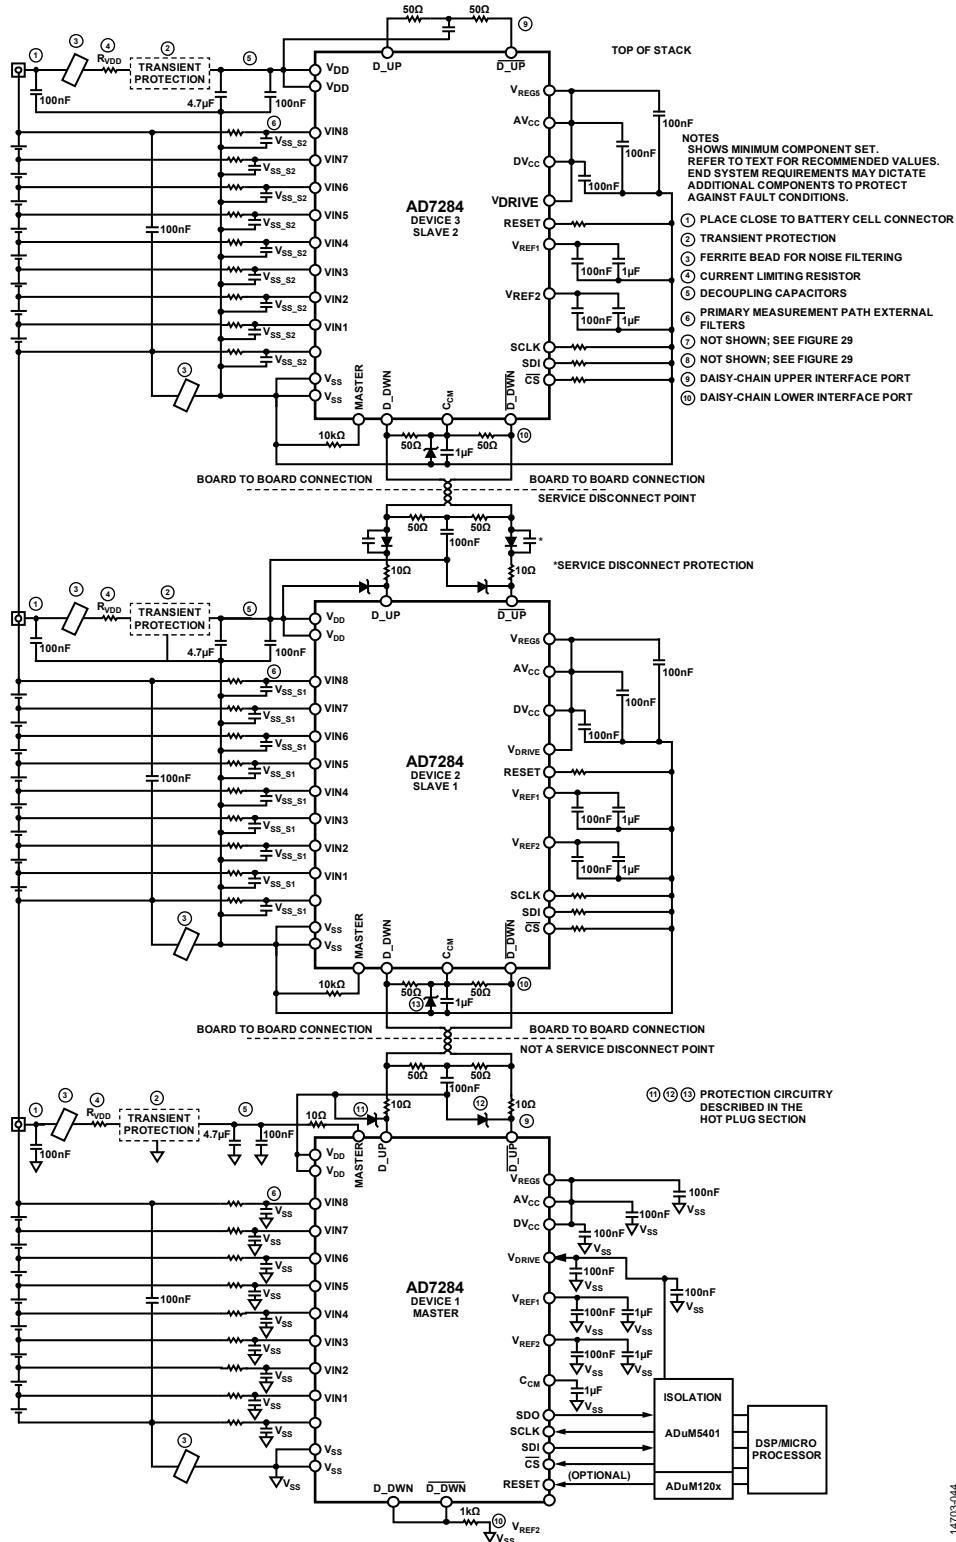

Figure 42. AD7284 Daisy-Chain Configuration with Three Devices, Where All Devices are on Separate Boards
The following notes refer to the notes detailed in Figure 41 and Figure 42:
3. Ferrite bead to filter supply noise. Typically, 1 k Ω ferrite (100 MHz) is recommend in the V_{DD} path. If a ferrite is required in the V_{SS} line, it is recommended to use a value <100 Ω (100 MHz). This note applies to the master or slave configurations. See Note 11 in Figure 41 and see Note 3 in Figure 42.
Li-Ion battery applications require a significant number of individual cells to provide the required output voltage. Figure 42 shows the recommended configuration of a chain of AD7284 devices monitoring a larger battery stack. The daisy-chain interface of the AD7284 allows each AD7284 to communicate with the AD7284 immediately above and below it. The daisy-chain interface allows the AD7284 devices to be electrically connected to the battery management device without the need for individual isolation devices between each AD7284. One AD7284 acts as the master device, interfacing through the standard SPI interface to the host processor and to the chain of connected slave devices.
Figure 42 shows how a chain of three devices can be configured to operate on individual boards, if required; the same configuration can be used if all devices are mounted on the same board.